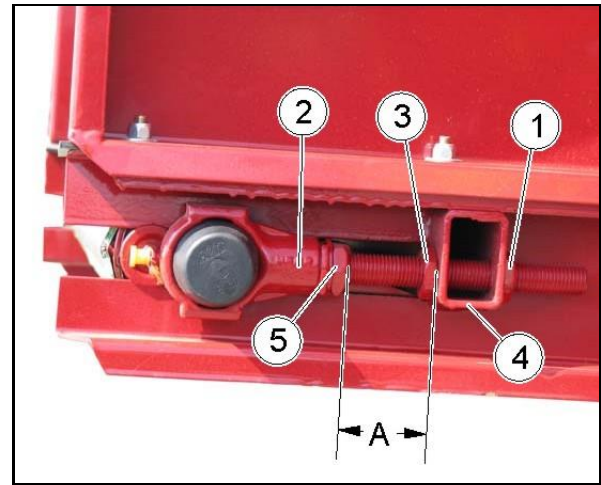

Fig. 108
- Straighten the conveyor by means of the clamping screws (Fig. 108/2) if the conveyor is not running straight or is rubbing along the frame.